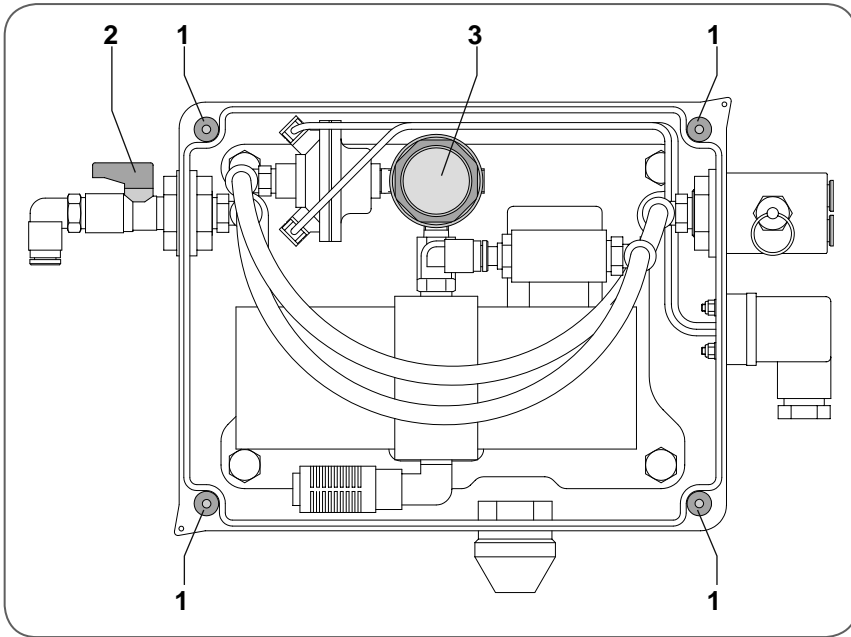

Fig. 13 - Control unit open 03 001 0184 00
1. Open the control unit by loosening the screws (4x) see ► *Fig. 13*, (item 1) on the cover.
3. To increase the output pressure, unlock the setting knob (item 3) by pulling it out and turn it in a clockwise direction gradually.
4. Read off the manometer when the pump operation is complete and release the pressure at the overpressure safety valve (item 2).
5. To reduce the output pressure, unlock the setting knob (item 3) by pulling it out and turn it in an anti-clockwise direction gradually.
6. Release the pressure at the overpressure safety valve (item 2) and repeat the procedure twice.
7. Lock the setting knob (item 3) by pressing it in.
8. Secure the cover to the control unit with screws (4x) (item 1) and hand tighten.